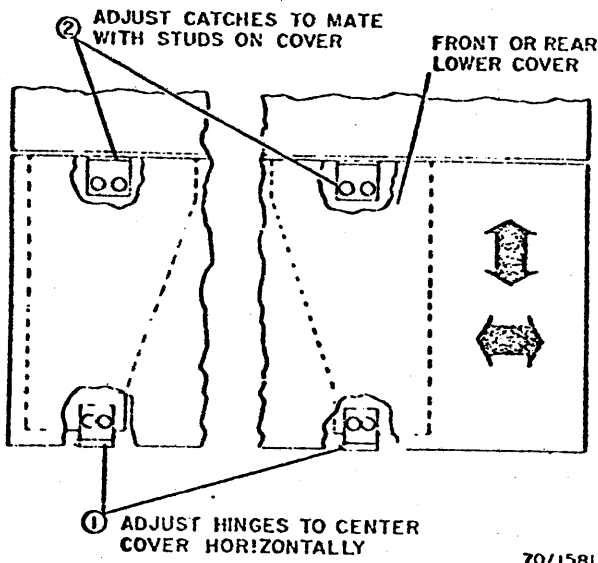

Fig. 3-227. Front and Rear Lower Covers
1. Adjust hinges to center cover horizontally (Fig. 3-227).